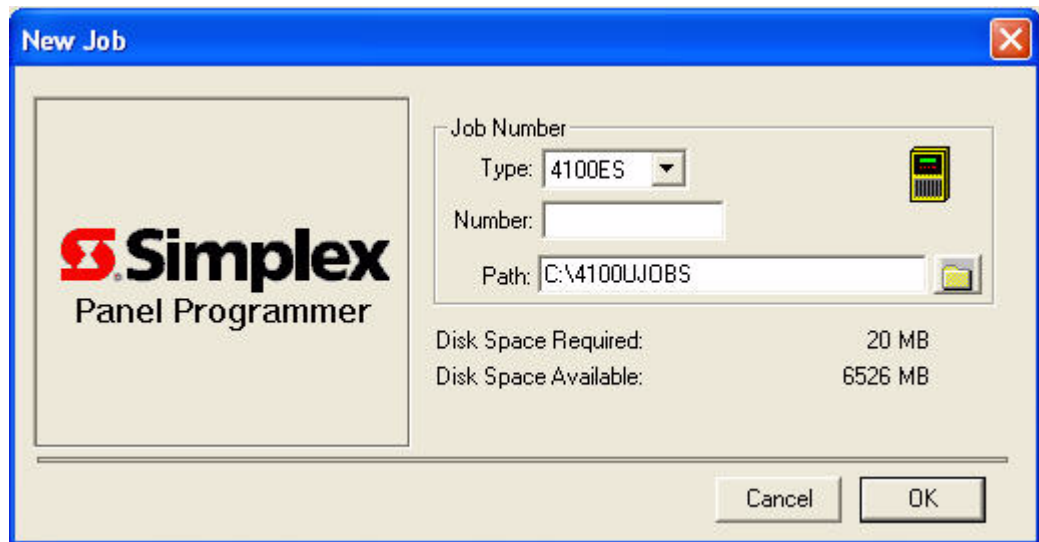

Figure 3-2. Create a New Job Dialog
A dialog similar to the one shown in Figure 3-2 appears.
4. In the **Path** field of the Create New Job dialog (refer back to Figure 3-2), specify the directory path to which the job file should be stored. The default directory for a standalone panel is \4100UJOBS. (Network jobs default to \NETJOBS\*SITENAME*, where *SITENAME* represents the job's directory.) If necessary, use the folder icon to the right of the text entry field to specify an alternative directory or drive.